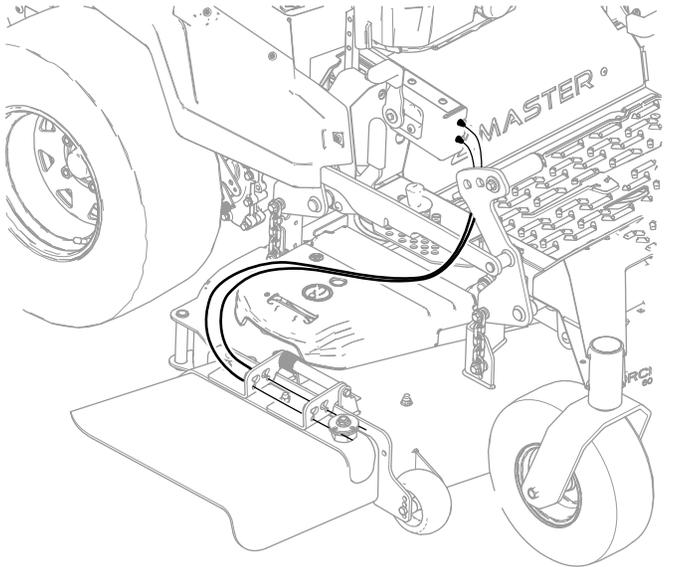

Figure 8
1. Route the cables between the control box and discharge chute as shown in Figure 8 to avoid damaging the cables through the entire height-of-cut range.
Important: Ensure that you route the cables away from the front of the deck-lift pedal as shown in Figure 8 so that you do not damage the cables.